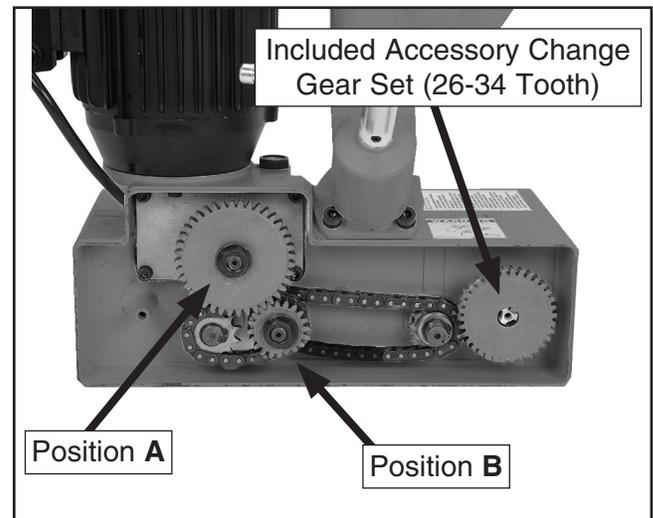

Figure 12. Change gear locations.
5. Swap the required gears in positions **A** & **B** shown in **Figure 12**.